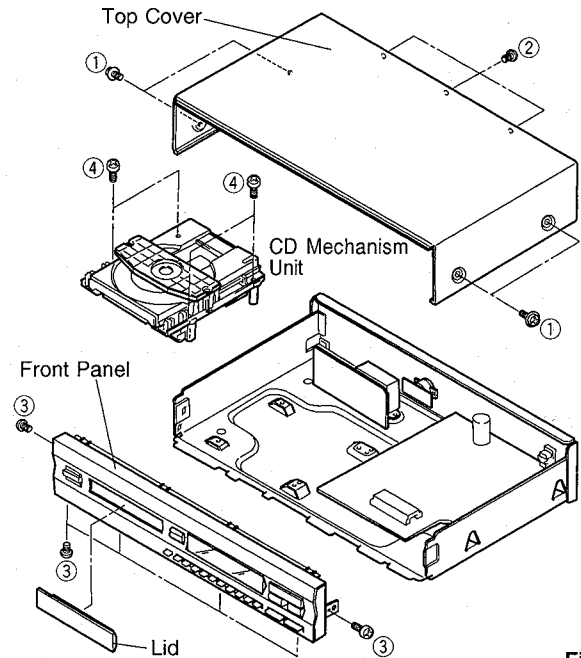

Fig. 1
- a. Remove 4 screws (①) and 3 screws (②) in Fig. 1.
- c. Remove 6 (③) screws in Fig. 1.
- b. Remove 4 screws (④) in Fig. 1.